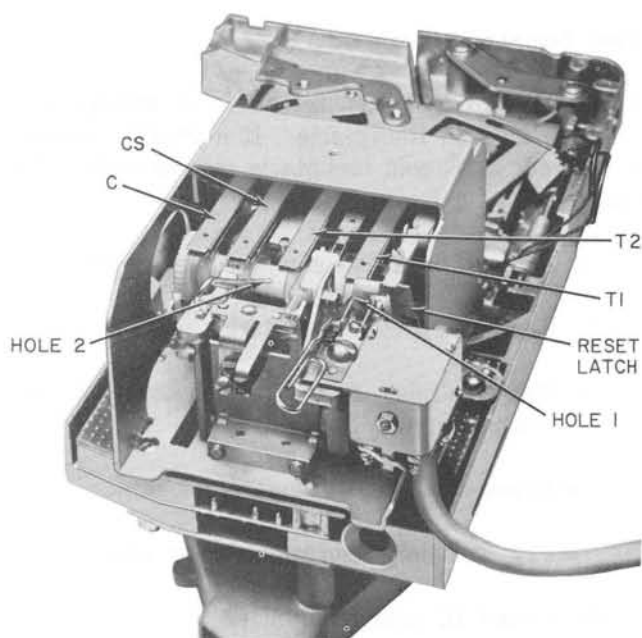

Fig. 6—Setting Totalizer Rate
Note: Totalizers are preset at the factory for an initial rate of 10 cents. If initial rates other than 10 cents are required, they may be reset (see Fig. 6). Two KS-16750, List 2 releasers or two paper clips are used to set the totalizer.
Use extreme care when resetting totalizer. Avoid damaging pawl and spring pile-ups. Do not attempt to turn totalizer cam shaft in direction opposite to that shown in Fig. 6.
- (2) Rotate totalizer shaft in proper direction (from bottom to top) until springs T2 (Fig. 6) rest in depression in shaft as indicated by movement of springs.
- (3) Depress reset latch toward bottom of totalizer.
- (4) Rotate shaft in proper direction until contacts T1 operate as indicated by an upward movement of the reset latch.
- (5) Do not allow shaft to move. Insert one KS-16750, List 2 releaser or paper clip into hole 1 located near right-hand end of shaft. Take care not to disturb contact springs.
- (6) Hold the paper clip firmly so that right-hand end of shaft cannot move.
- (7) Insert the second releaser or paper clip into one of four holes indicated as hole 2 in center of shaft. Do not allow end of releaser or clip to extend too far beyond shaft; this may damage insulation of coil located directly beneath shaft.
- (8) Rotate second releaser or clip in proper direction until springs T2 come to rest in depression in shaft. This is zero rate position. Do not remove releasers or clips from holes in shaft.
- (9) Set desired charge rate by further rotating shaft in proper direction according to Table B.
- (10) Remove releasers or paper clips.